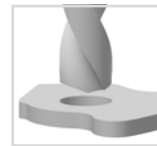

fig. 26
- 2 Bore and ream the hole until it has reached the desired dimension (fig. 26 and 27).